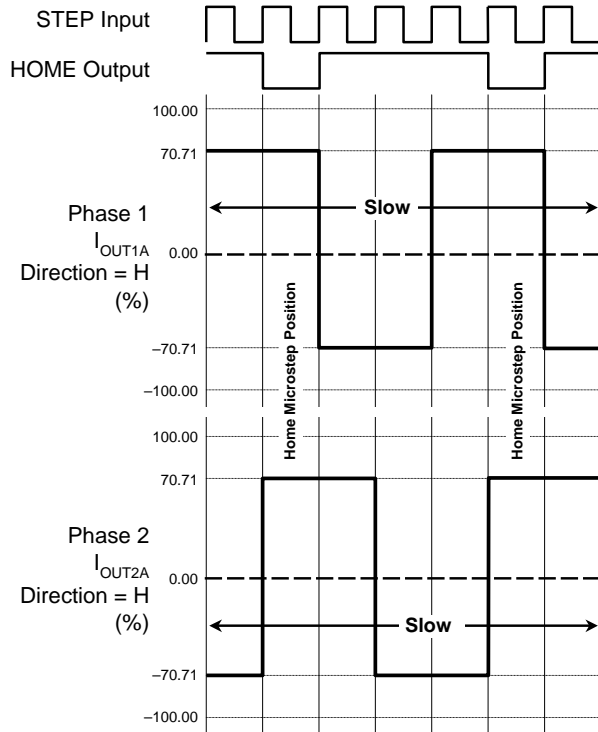

Figure 2. Decay Mode for Full-Step Increments
At power-on or reset, the translator sets the DACs and the phase current polarity to the initial Home state (shown in figures 2 through 5), and the current regulator to Mixed decay mode for both phases. When a step command signal occurs on the STEP input, the translator automatically sequences the DACs to the next level and current polarity. (See table 2 for the current-level sequence.) The microstep resolution is set by the combined effect of inputs MS1 and MS2, as shown in table 1.
**RESET Input (RESET).** The  $\overline{RESET}$  input (active low) sets the translator to a predefined Home state (shown in figures 2 through 5), and turns off all of the DMOS outputs. The HOME output goes low and all STEP inputs are ignored until the  $\overline{RESET}$  input is set to high.
**Home Output (HOME).** The HOME output is a logic output indicator of the initial state of the translator. At power-on, the translator is reset to the Home state (shown in figures 2 through 5).
**Mixed Decay Operation.** If the voltage on the PFD input is between  $0.6 \times V_{DD}$  and  $0.21 \times V_{DD}$ , the bridge operates in Mixed decay mode, as determined by the step sequence (shown in figures 2 through 5). As the trip point is reached, the device goes into Fast decay mode until the voltage on the  $R_{Cx}$  terminal decays to the same level as voltage applied to the PFD terminal. The time that the device operates in fast decay is approximated by: